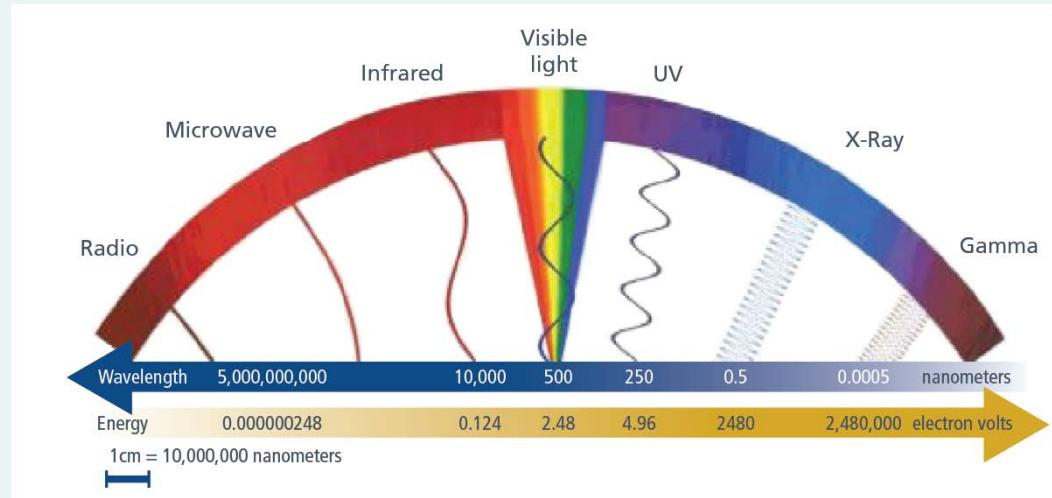

Figure 1: Radiation spectrum (illustration courtesy of Harvard University) [1].
Generally, wave radiation has properties similar to optics including reflection, absorption, refraction and diffusion. However, space (wave) radiation wavelengths extend above and below the visible light spectrum. Radiation below visibility includes microwaves and radio frequencies (RF). Radiation above visibility includes ultraviolet, X and gamma rays. In Figure 1, note the wavelengths and associated energies—which are key parameters for measuring radiation exposure.